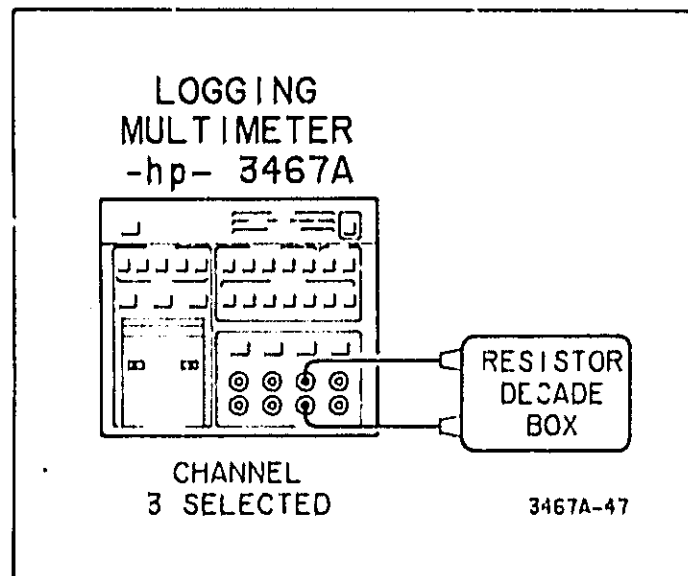

Figure 5-1. Temperature Measurement Accuracy Test.
- b. Connect the precision resistor decade box to Channel 3 as shown in Figure 5-1 and adjust the decade box to the test load value, R_1 , listed in Table 5-2.